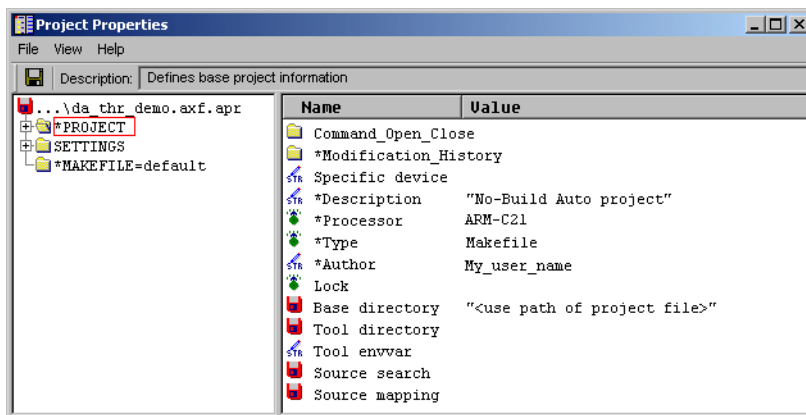

Figure 3-5 Search rules in the Project Properties window
1. Select **Project** → **Project Properties...** to display the Project Properties window, shown in Figure 3-5.